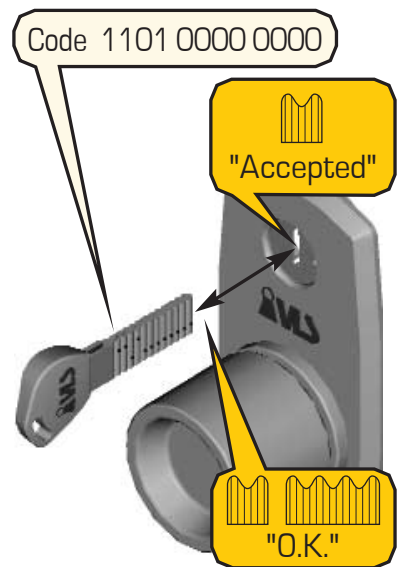

Figure 29 – Blocking Operation Code No. 2
**2.** In order to block the operation code No. 2, set the blocking code 1101 0000 0000 on the key (fig. 29).